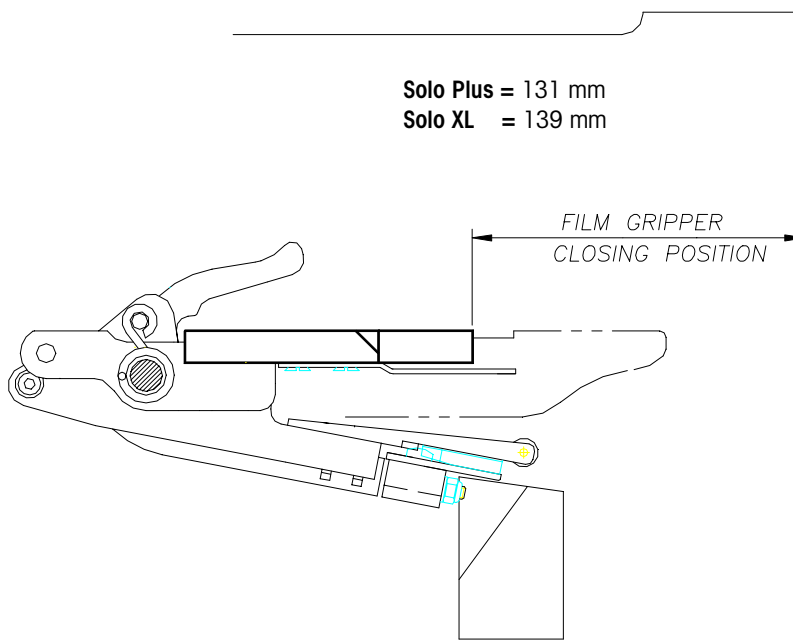

Figure 7-28
5. As a point of reference, the Center Clamp carriage should be 131 mm from the edge of the machine frame for the Solo Plus, and 139 mm from the edge of the machine for the Solo XL (See Figure 7-28). Since the gripper cam mount is drilled and pinned, this dimension cannot be changed.